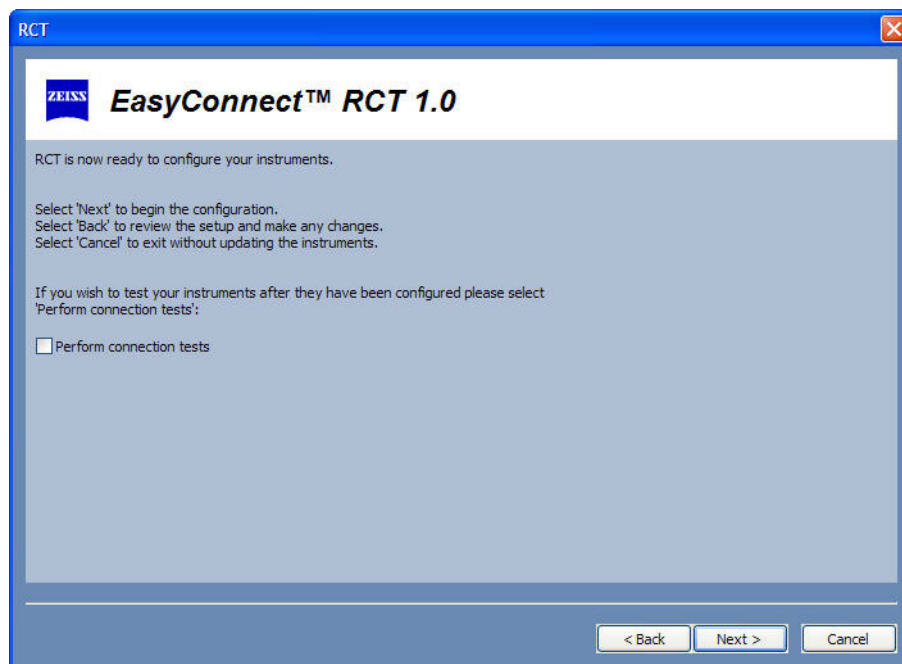

Figure G.11 Commit Screen
- 6 The RCT will display a Commit screen (Figure G.11) before sending configuration messages to any instrument. This screen gives you a last chance to make corrections before committing the specified changes. Select BACK to go back to the previous screen(s) to make any corrections. Selecting CANCEL will exit the RCT without configuring any of the selected instruments.